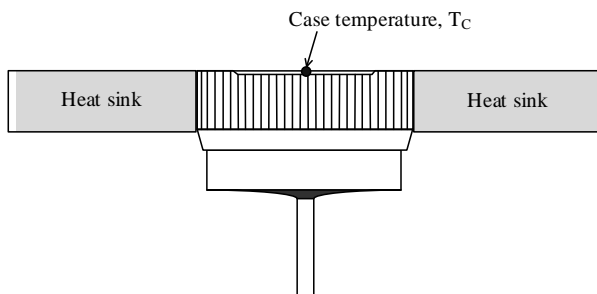

Figure 1. Case Temperature Measurement Conditions
(1)  $R_{th(j-c)}$  is thermal resistance between junction and case. Case temperature is measured as shown in Figure 1.
(2) See Figure 1 for the measurement conditions of case temperature.
(3) See Figure 1 for measurement conditions of lead temperature.